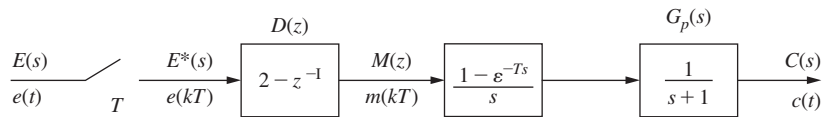

FIG. P4.4-1 System for Problem 4.4-1.
- 4.4-1.** Example 4.3 calculates the step response of the system in Fig. 4-2. Example 4.4 calculates the step response of the same system preceded by a digital filter with the transfer function $D(z) = (2 - z^{-1})$. This system is shown in Fig. P4.4-1.
- Let the response in Example 4.3 be denoted as $c_1(kT)$. Use the results in part (a) to express the output $c(kT)$ in Fig. P4.4-1 as a function of $c_1(kT)$.
- Use the response $c_1(kT)$ calculated in Example 4.3 and the results in part (b) to find the output $c(kT)$ in Fig. P4.4-1. This result should be the same as in Example 4.4.
- Use the response $C_1(z)$ calculated in Example 4.3 and the result in part (b) to find the output $C(z)$ in Fig. P4.4-1. This result should be the same as in Example 4.4.